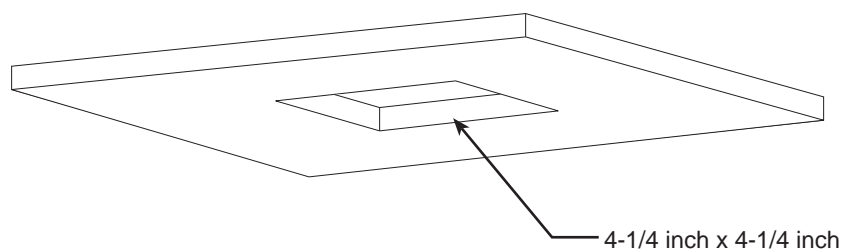

Figure 15. Ceiling cutout diagram
1. If the back box is already installed, go to step 5. Otherwise, cut a 4 1/4-inch x 4 1/4-inch hole in the ceiling (see figure 15).